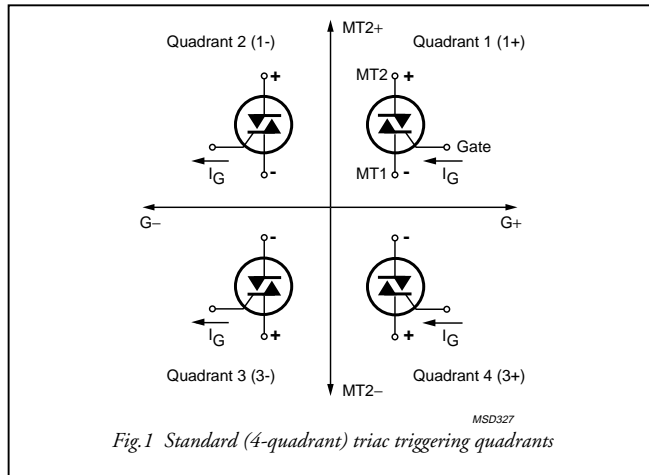

Fig.1 Standard (4-quadrant) triac triggering quadrants
The gate of a standard 4-quadrant triac allows conduction in both directions to be initiated by either a positive or a negative current pulse between gate (G) and main terminal (MT1). The four different modes of triggering are often called 1+, 1-, 3- and 3+ (or sometimes quadrants 1, 2, 3 and 4) and are shown in Fig.1.
The situation is quite different with inductive or motor loads. For these circuits, conduction current lags behind the line voltage as shown in Fig.1. When triac commutation occurs, the rate of rise of voltage in the opposite direction can be very rapid and is governed by the circuit and device characteristics. This high dV_{COM}/dt means there is a much higher probability of charge carriers in the device re-triggering the triac and causing a commutation failure.